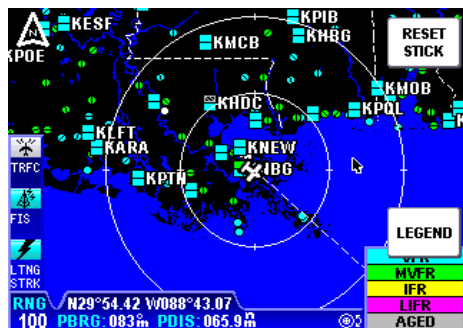

Figure 2-26
3. To view a specific METAR, move the joystick in the desired direction. A pointer will appear on the display. The distance and bearing between present position and the pointer is shown at the bottom center of the display (see Figure 2-26). As the joystick is held the pointer will continue to move. When the pointer reaches the edge of the display the map will pan to keep up with pointer movement. Release the joystick to stop moving the pointer. When the pointer moves over a graphical METAR icon, a box will pop up containing the **IDENT**, **NAME** and **CITY/STATE**